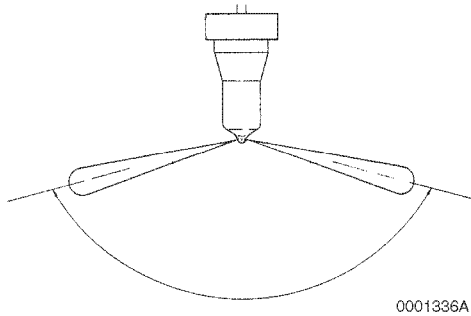

Figure 7-50
6. Pump the operating lever more rapidly to repeatedly “pop” the injector and observe the spray pattern. The pattern should be a very fine uniform spray (Figure 7-50). If a dripping or an uneven pattern is seen (Figure 7-51), service or replace the injector.